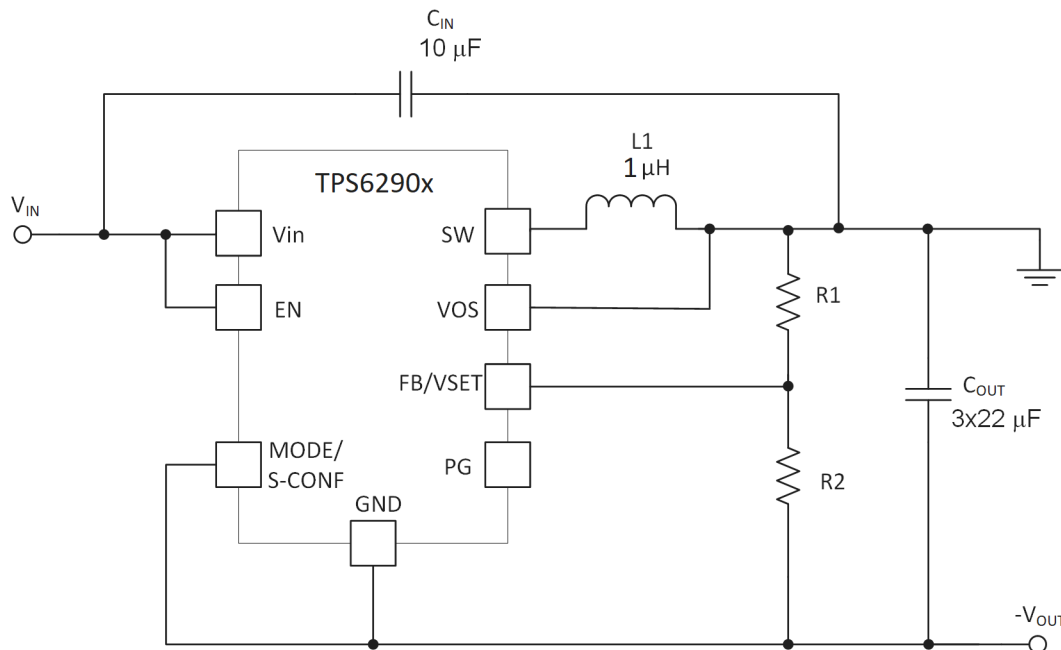
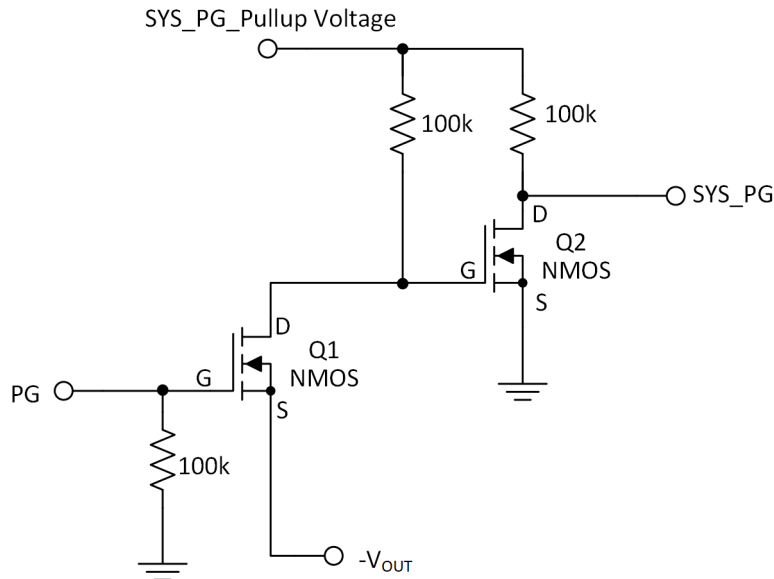

**Figure 2-2. EN Pin with Voltage Divider**
**Figure 2-3. External Feedback with 2.5 MHz Switching Frequency and Auto PFM/PWM**
If the system enabling and disabling of the TPS62903 is not desired, the EN pin can be directly connected to  $V_{IN}$  or a voltage divider connected to  $V_{IN}$ . We strongly recommend to add a voltage divider placeholder (R3/R4) between  $V_{IN}$  and EN pin which is shown in Figure 2-2. Recommend  $R3:R4 \geq 2:1$  ratio to ensure  $V_{IN} > 2.95\text{ V}$  UVLO before  $EN > 1\text{ V}$  which the internal circuit of device is ready before EN is fully enabled. UVLO and EN falling thresholds become relative to  $-V_{OUT}$  instead of GND. For example, UVLO falling =  $2.75\text{ V} + V_{OUT}$  and EN
TPS62903 has a MODE/S-CONF pin which can be used to customize the device behavior. Refer to schematic in Figure 2-2 and Figure 2-3
- The external feedback configuration shown in Figure 2-3, where the MODE/S-CONF pin can be tied to  $-V_{OUT}$  directly to configure as 2.5 MHz switching frequency, Auto PFM/PWM with AEE and output discharge enabled.